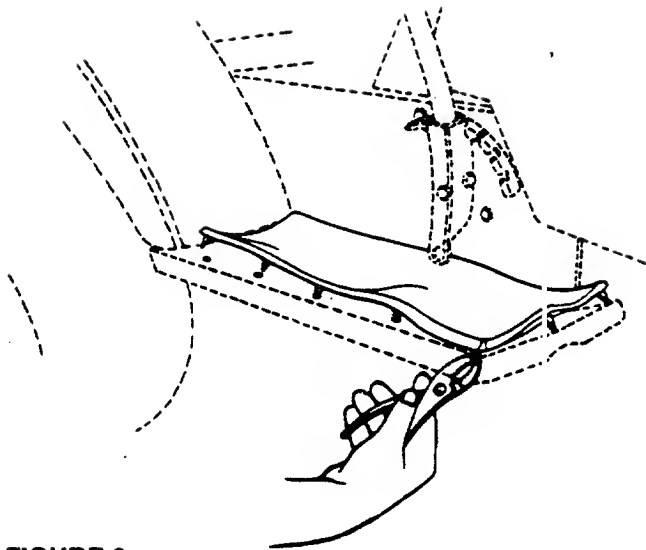

FIGURE 9.
1. If not already assembled, attach foot pads as follows. Position one foot pad on top of the running board on the tractor, lining up the studs on the bottom of pad with the holes in the running board. Pull the studs through the holes in the running board using a pair of pliers. Repeat on other side of tractor. See figure 9.